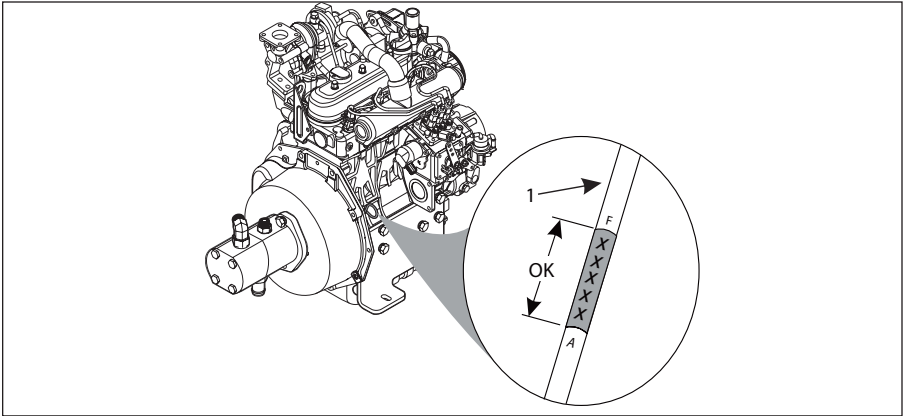

Figure 3-1 Engine Oil Level Check
- Pull out the dipstick and look for both the full and add oil lines (Item 1, **Figure 3-1**) indicated by the letters “F” and “A”. The correct oil level is between those two lines.